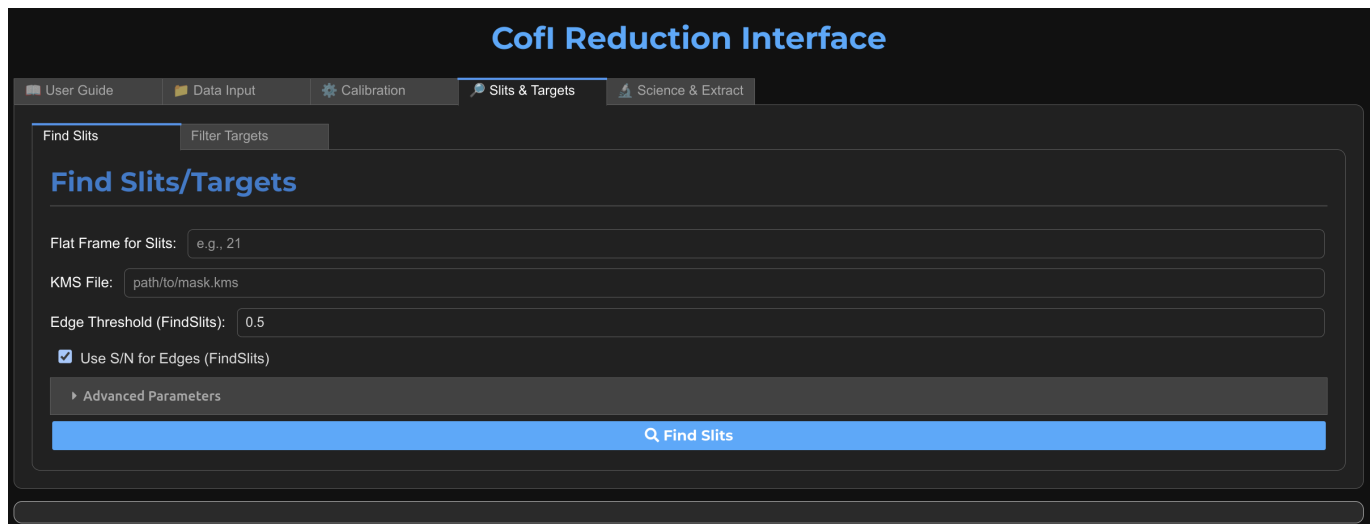

Figure 12: Finding slits
- **Purpose:** To identify the physical location of the slits on the CCD and correlate them with the target information from a KOSMOS slit mask ('.kms') file (Figure 12).